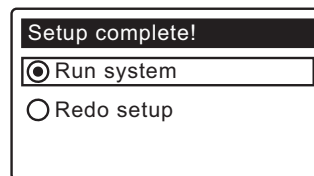

FIG. 22
- 12.** Press the SELECT (○) button. The screen will show “Setup complete!” (See Figure 22).
- 14.** If no changes are desired, make sure **Run system** has a black dot next to it (See Figure 22) and press the SELECT (○) button. The unit begins normal operation, described on the next page.